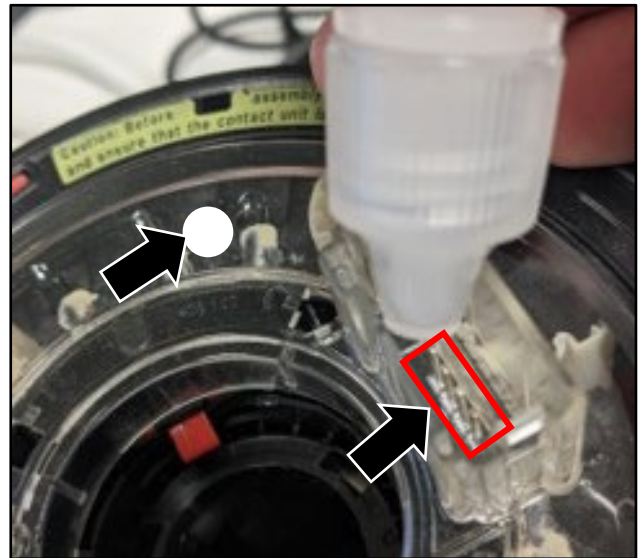

Figure 3
6. Use a drip applicator to carefully apply Stabilant 22 solution to the airbag link harness on terminal numbers 1, 2, 3 & 4 (refer to Figure 3).
7. When step 7 is complete use a white paint pen to mark the area shown with a white dot (refer to Figure 3).